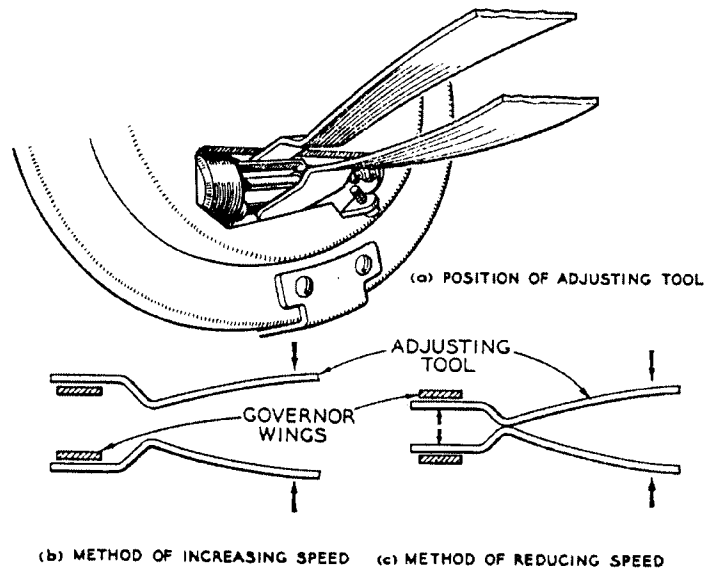

FIG. 19.—ADJUSTMENT OF DIAL SPEED
**18. Dial speed.**—The wings of the governor should be straight and free from kinks. The weights should be equidistant from the governor spindle, as near as can be judged by eye. The wings of the governor should be adjusted with Adjuster, Dial Governor, so that the speed of the dial is  $10 \pm 0.5$  p.p.s. (re-adjust),  $10 \pm 1$  p.p.s. (test). To increase the speed of the dial the wings should be bent inwards (see Fig. 19), and vice-versa to reduce the speed of the dial. A dial speed tester is necessary to check the results of the adjustment.